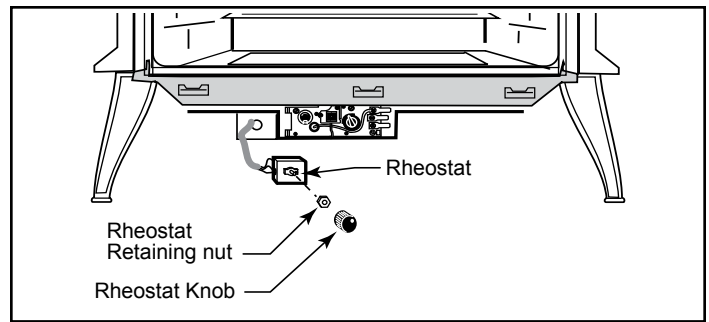

**Figure 62** - Position the fan to engage the inner shroud with the fan bracket slots and secure with sheet metal screws.
6. Position the fan assembly so the ducts slide between the inner and outer shroud. The inner shroud should engage with the two slots in the ends of the bracket so the bracket and shroud are interlocked. (Figure 62) Secure the bracket with the four sheet metal screws provided in the finish bag.